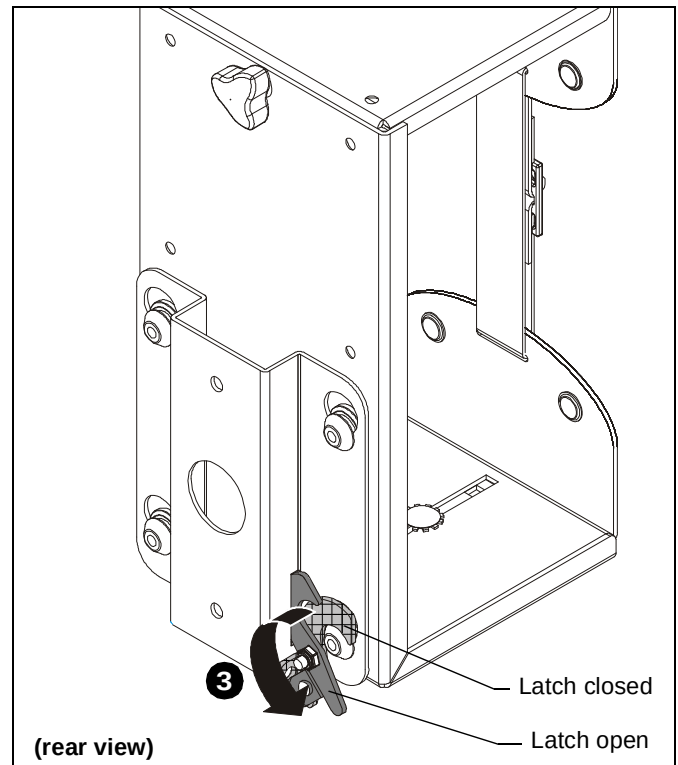

Figure 15
4. Ensure bracket flag is in the open position. (See Figure 15)